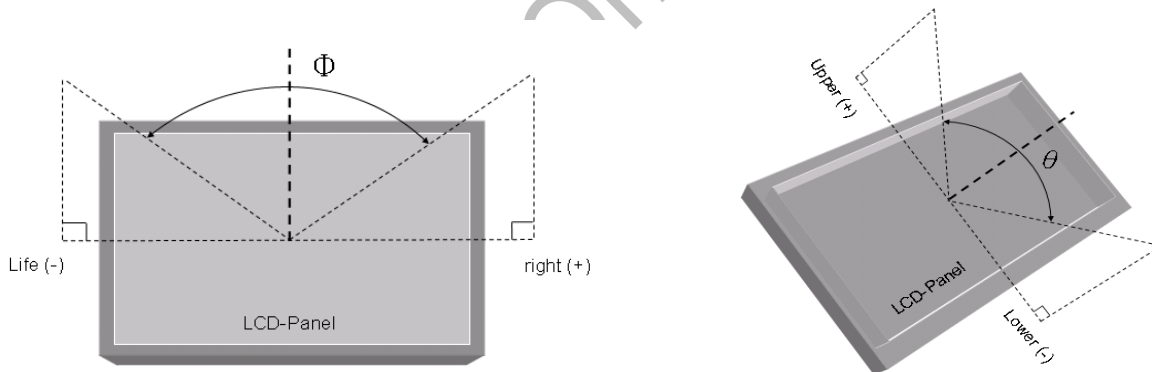

Fig.7-2 Definition of Viewing Angle
- *4) Definition of Viewing Angle(θ, ψ), refer to Fig.7-2 as below :